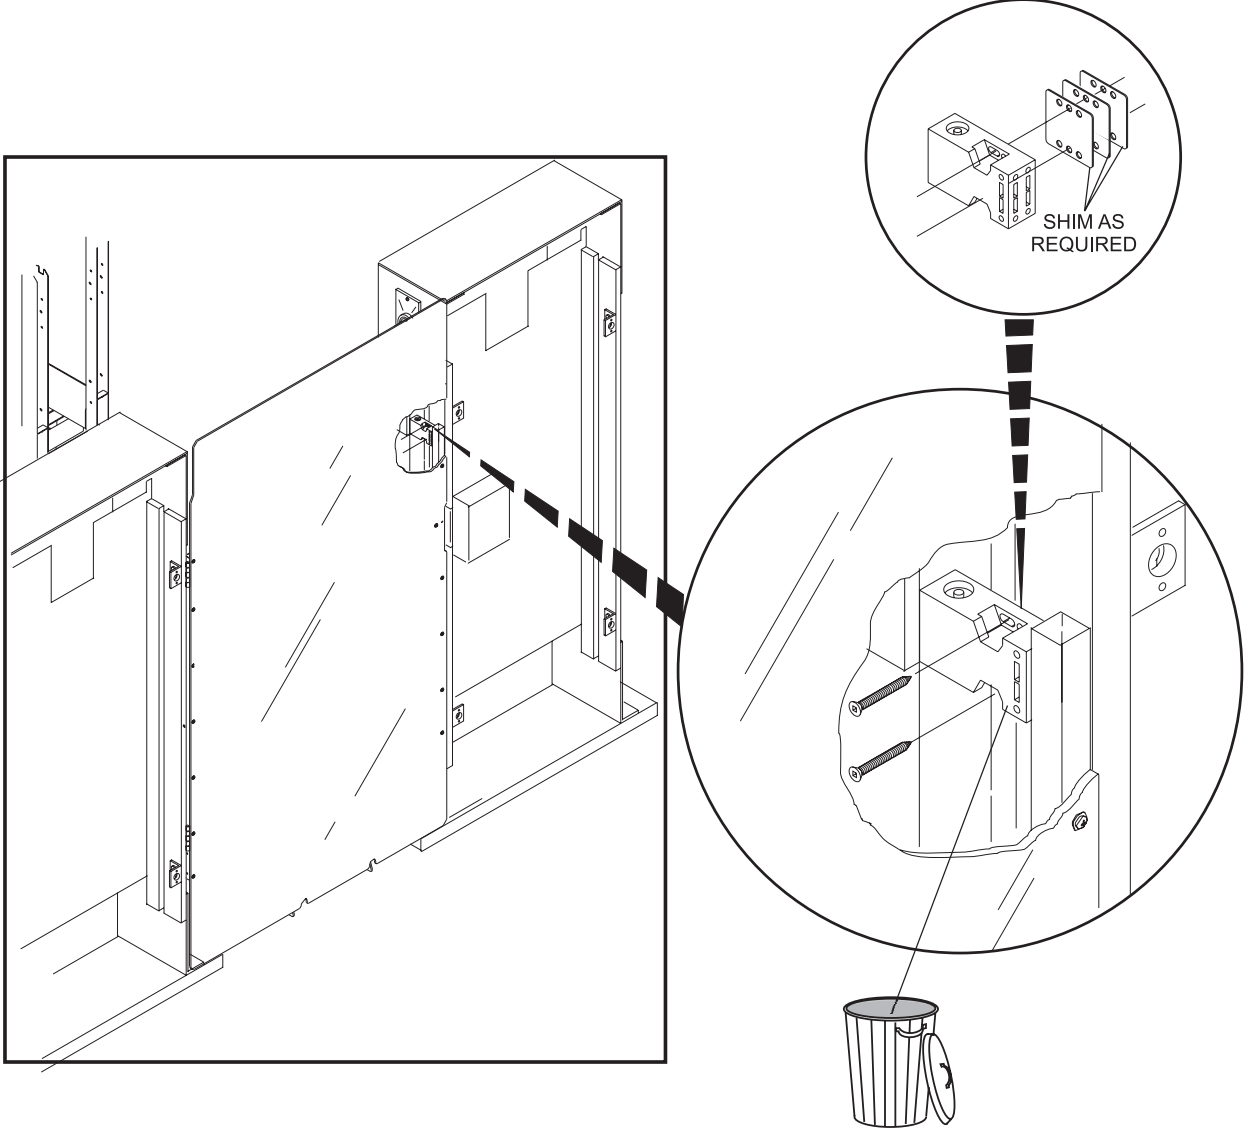

Figure 7
1. Remove the old ball return door interlock switch. Refer to *Figure 7*.
2. Install the new ball door interlock switch with the same hardware used to install the old switch. Refer to *Figure 7*.